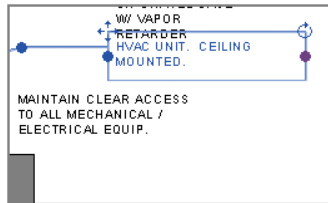

FIGURE 12.24 Modifying the text box
2. With the view activated, notice that the other views have become grayed out. Only the elements you can currently edit remain active in the view. Select the text box you've identified, and drag the right grip inward so the text wraps, as shown in Figure 12.24.